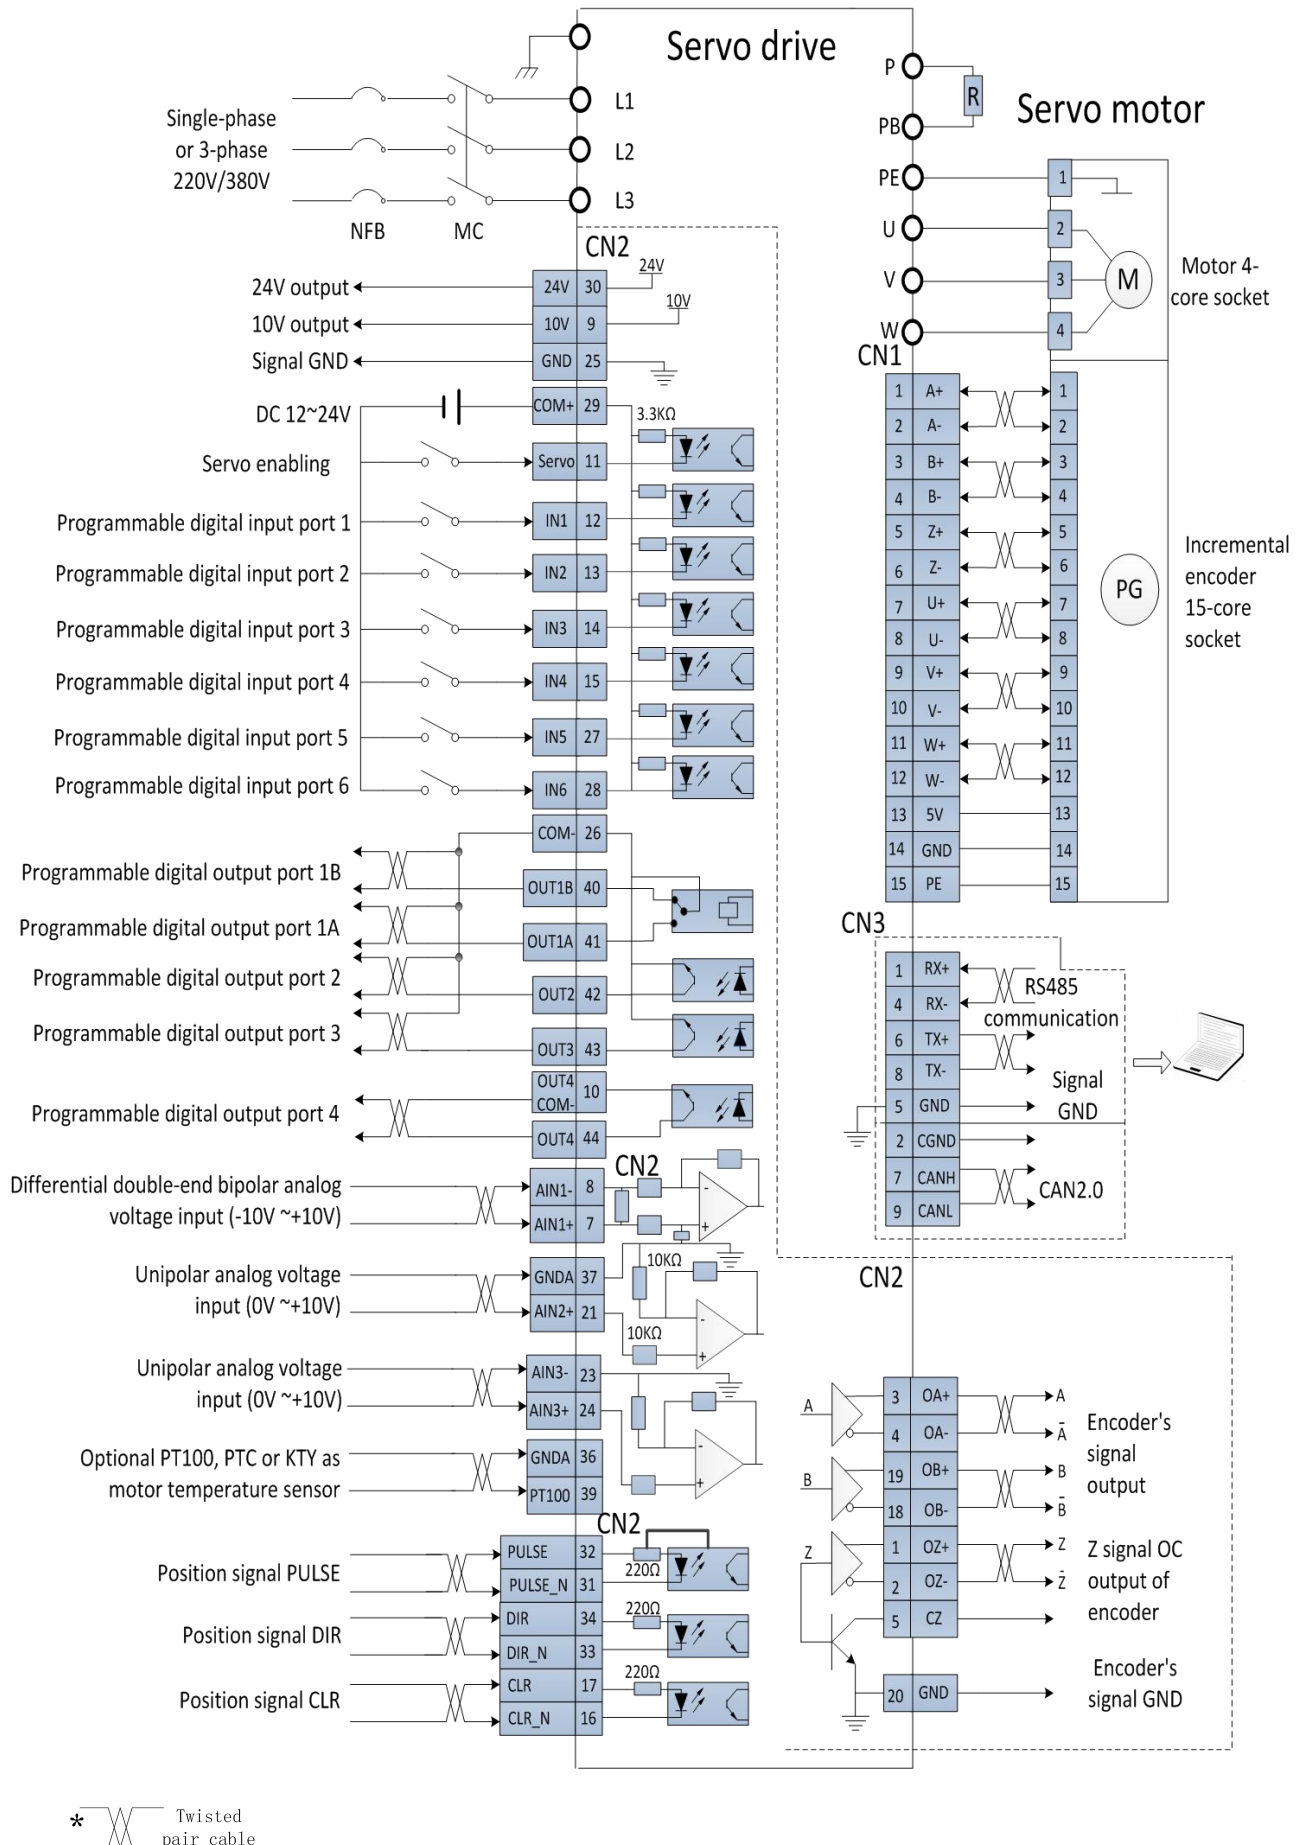

Figure 4-3: Standard wiring diagram of drive
- 3) Standard wiring of input / output see Figure 4-3.